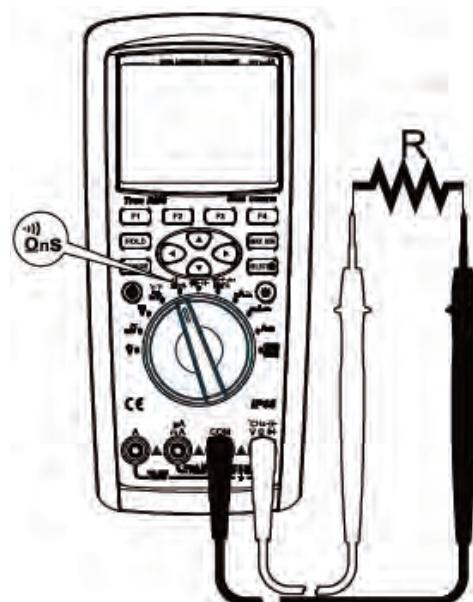

Figure 8
- 2) Set the rotary switch to the Ω nS  position. The meter will default to resistance measurement. Connect the test leads to both ends of the measured resistance as shown in Figure 8.
- 2) Set the rotary switch to the measurement Ω nS . Press the SELECT key twice to select Conductance measurement. Connect the test leads to both ends of the measured resistance as shown in Figure 8.
- 2) Set the rotary switch to the measurement Ω nS \bullet \square , press the SELECT key to select the Continuity test \bullet \square . Connect the test leads to both ends of the measured resistance as shown in Figure 8. Press the function key labelled, "MENU" to select measurement options. Pressing the function key labelled, "SHORT" will put the meter in Short Circuit Alarm mode. Pressing the function key labelled, "OPEN" will put the meter in Open Circuit Alarm mode.